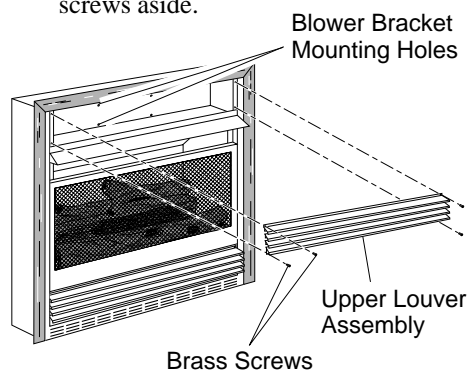
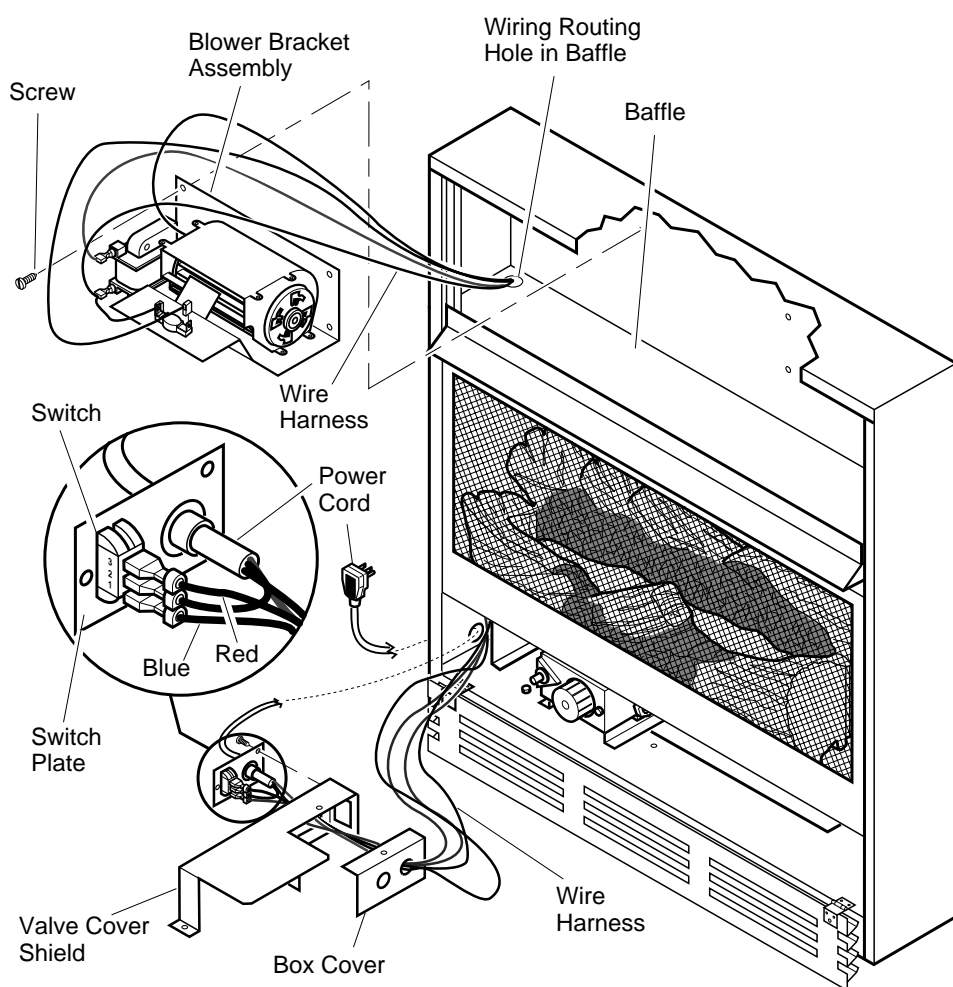
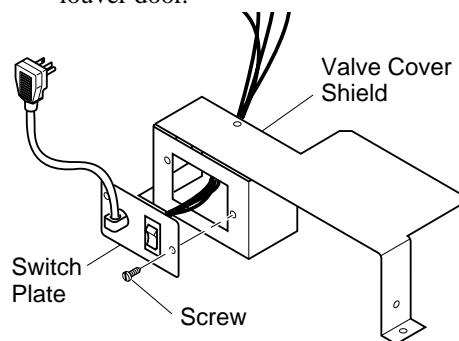

Figure 16 - Removing Upper Louver Assembly
Figure 18 - Installing Blower Bracket Assembly
Figure 19 - Installing Switch Plate to Valve Cover Shield
2. Remove 4 screws from louver assembly (see Figure 16). Save these screws.
3. Note the wire locations on back of AUTO/OFF/ON switch. The terminals on back of switch are numbered 1, 2, and 3. Carefully remove red wire from terminal 1 and blue wire from terminal 3. Black wire can remain on middle terminal 2 (see Figure 18, page 12).
5. In top of the heater cabinet, locate the four mounting holes on the outer casing. Align these four holes with those on the blower bracket assembly. Attach blower bracket assembly to the outer casing with 4 #10 screws provided (see Figure 18).
6. Route the wire harness through the hole in left side of baffle. Pull wire harness through lower opening above where the valve shield was removed. (see Figure 18).
7. Insert the 4 wire harness into one of the round holes in the rear of the valve cover shield and through the rectangular hole in the front of shield (see Figure 18).
9. Install the switch plate on the valve cover shield with 2 #10 screws provided (see Figure 19). Reinstall the valve cover shield. Route power cord out of the cabinet by inserting it through the bushing on the outer casing (see Figure 18). Plug fan kit into 120-Volt grounded power supply and test operation. **Note:** When switch is in the AUTO position, the fan will start after the heater has run for a few moments. The fan will continue to run for several moments after the heater has been turned off. When switch is in the ON position, the fan will run until turned to OFF. Reinstall upper louver assembly and hood if previously removed, (see Figure 16, page 11). Close lower louver door.
8. Reinstall upper louver assembly and hood if previously removed, (see Figure 16, page 11). Close lower louver door.